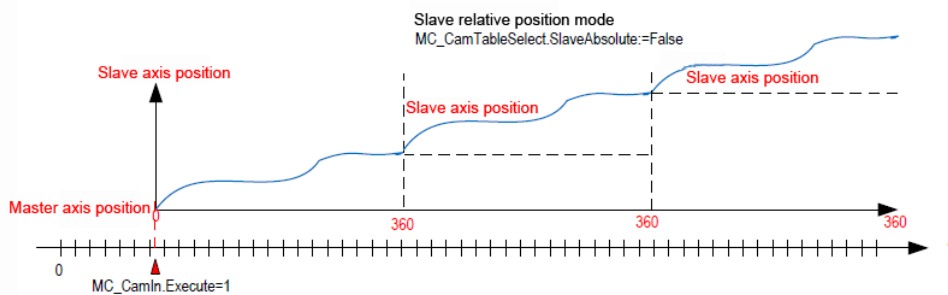

Figure 8-3 Periodic mode
2. Periodic mode (Periodic:=1): After the cam table cycle is completed, the slave shaft will start the next cam cycle until the user program commands it to exit the cam running state, as shown in Figure 8-3.